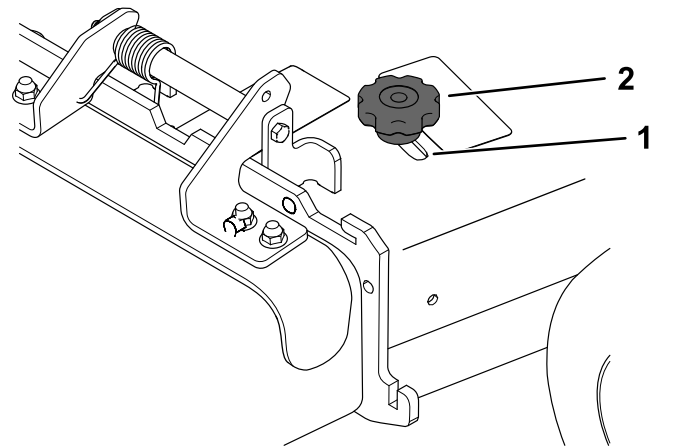

Figure 23
3. To adjust the baffle, loosen the knob (Figure 23).